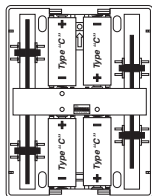

Figure 3
3. **Install 4 alkaline "C" batteries in chime.** Make sure batteries are oriented properly as shown in Figure 3.
7. Replace batteries (see Figure 3). Snap cover onto chime base.